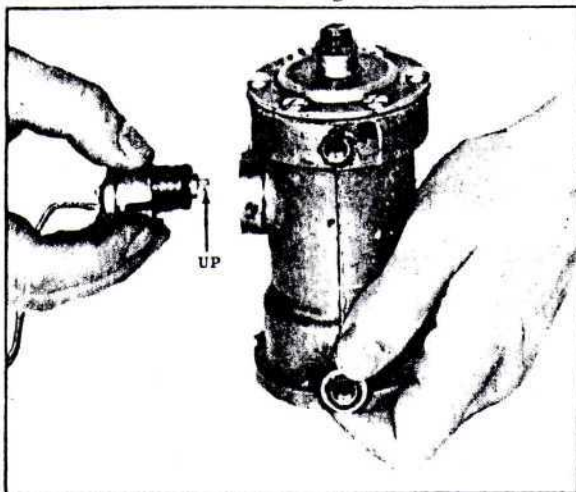

FIGURE 17
2. Trip actuator of switch upward (Figure 17).
3. Slide new sponge rubber gasket (Figure 17) on the barrel of the switch housing and